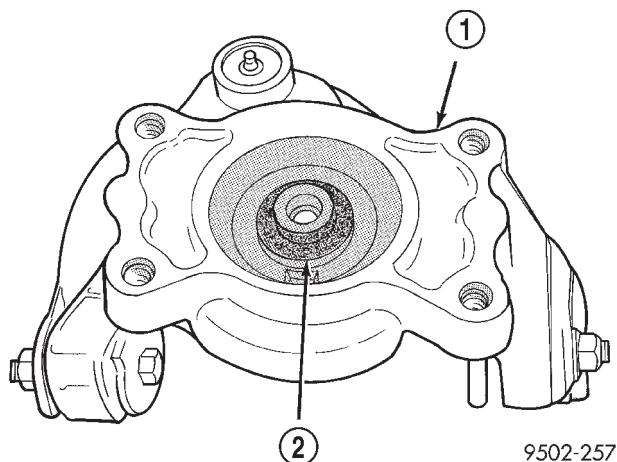
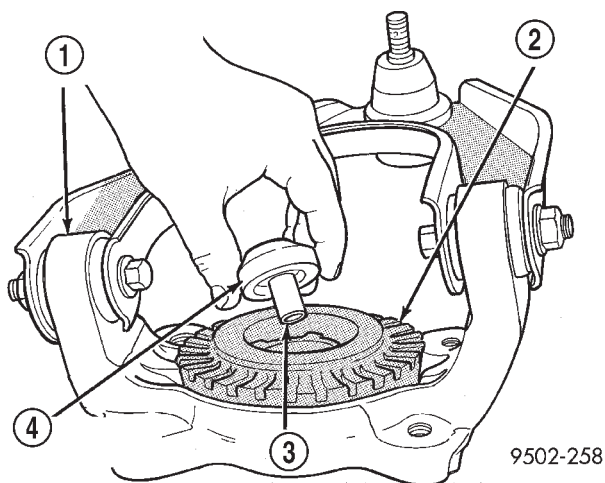

Fig. 66 Shock Absorber Rod Upper Isolator Bushing
Fig. 67 Shock Absorber Rod Lower Isolator Bushing
(9) Remove the shock absorber rod upper isolator bushing from the upper (shock absorber/upper control arm) mounting bracket (Fig. 66).
(10) Remove the shock absorber rod lower isolator bushing and sleeve from the upper (shock absorber/upper control arm) mounting bracket (Fig. 67). Remove upper coil spring isolator from mounting bracket.
(1) Install the upper coil spring isolator on the upper (shock absorber/upper control arm) mounting bracket (Fig. 67).
(2) Install the sleeve into the lower shock absorber rod isolator bushing (Fig. 67). Install the shock absorber rod lower isolator bushing and sleeve in the bottom of the upper (shock absorber/upper control arm) mounting bracket as shown (Fig. 67). From the top, install the shock absorber rod upper isolator bushing into the center of the upper mounting bracket over the sleeve protruding from the lower isolator bushing (Fig. 66). The smaller end of each bushing is to face away from the upper mounting bracket once installed.
(3) Place the lower end (smaller diameter) of the coil spring in the spring compressor supported by the lower hooks, following the manufacturer's instructions. Position the coil spring lower end tip at the position it was at before coil spring removal from the